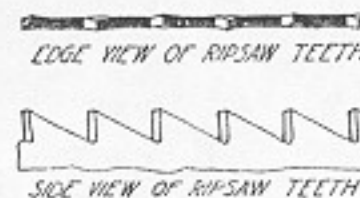

Fig. 6. Ripsaw teeth.
10. Ripsaws are filed straight across, because their teeth are shaped like chisels (Figs. 6 and 7). The saw is clamped, with the handle to the right, in a saw vise or between two pieces of wood in a bench vise so that the gullets of the teeth are about $\frac{1}{8}$ in. above the jaws of the vise or boards.